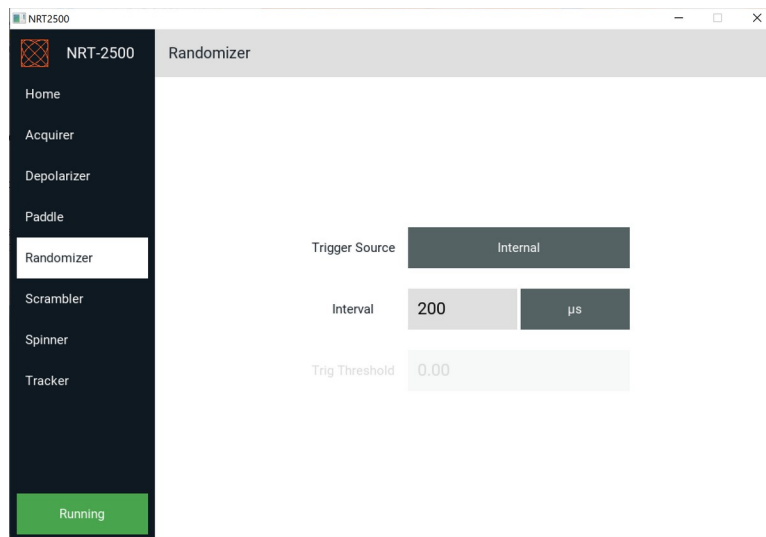

Figure 38: Randomizer Mode - internal trigger mode of operation. The user can change the time between SOP changes (the Dwell time).
1. Internal Trigger – An SOP change will occur automatically every N microseconds, where N is the value set by the *Dwell time*. *Dwell time* can receive values between 200 and 32,000,000 microseconds (see Figure 38).